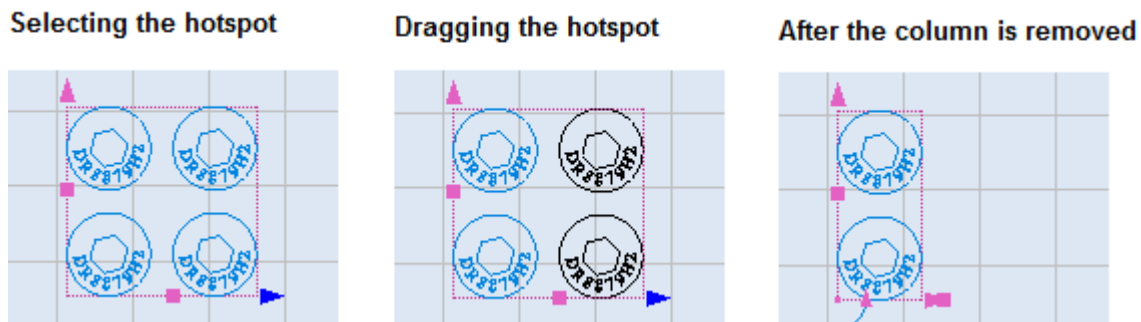

Figure 439: Removing a column from a Rectangular Array
1. Left-click the **Add/remove columns** hotspot or the **Add/remove rows** hotspot in the Rectangular Array. The selected hotspot turns blue, as shown in Figure 439 (below).